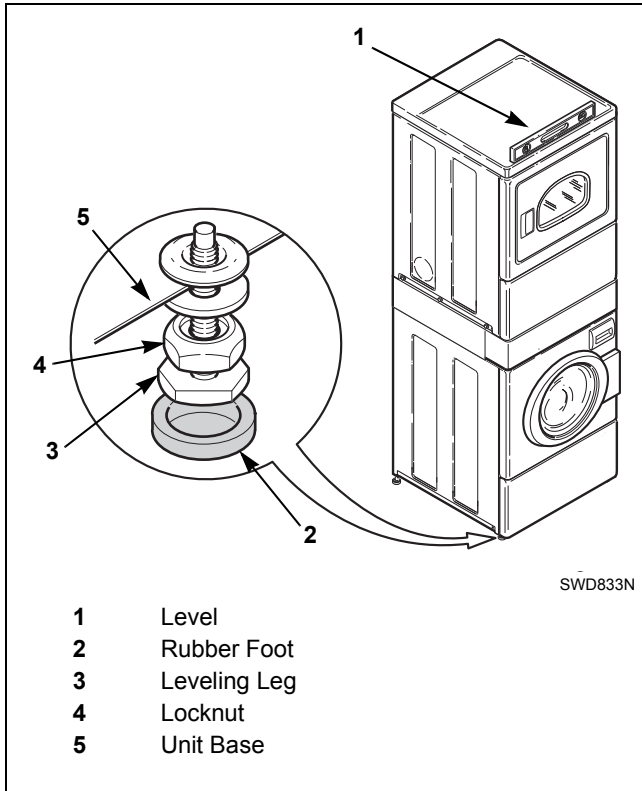

Figure 3
**NOTE: Level must rest on raised portion of top panel. Refer to *Figure 3*.**
Place rubber feet (supplied in accessories bag) on all four leveling legs. Refer to *Figure 3*.